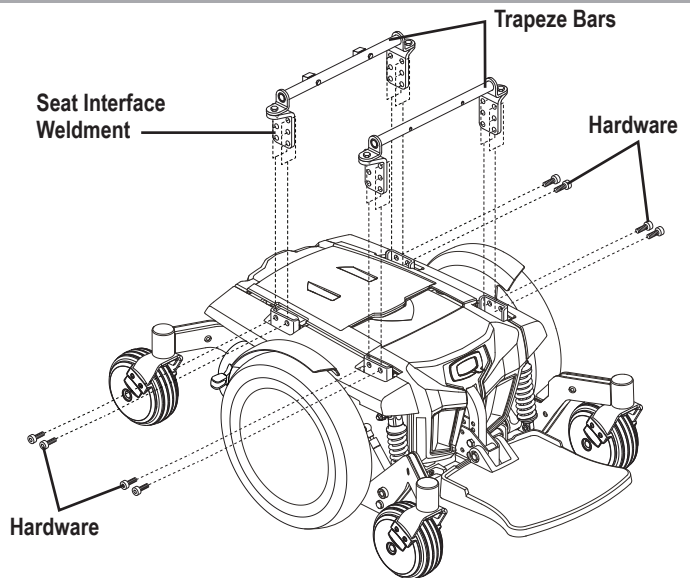

Figure 14. Seat Height/Angle Adjustment
7. Remove the hardware that attaches the trapeze bars to the seat interface weldments. **See figure 14.**